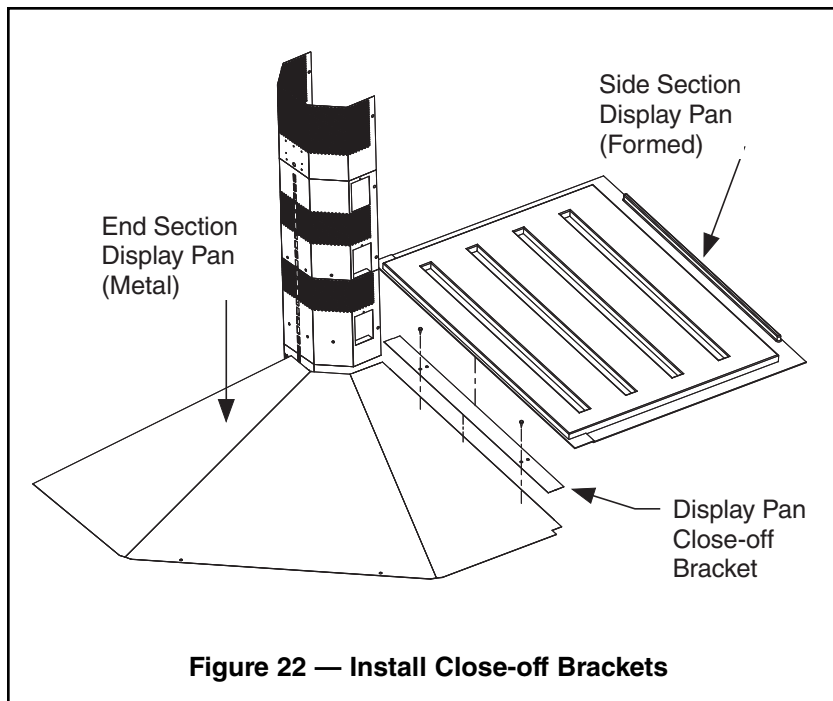

Figure 22 — Install Close-off Brackets
**20** Position a **Display Pan Close-off Bracket – 8** between the side section and end section deck pans as shown in Figure 22. Use two (2) **Self-Drilling Hex-Head Screws – 9** to attach each bracket to an end section display pan.